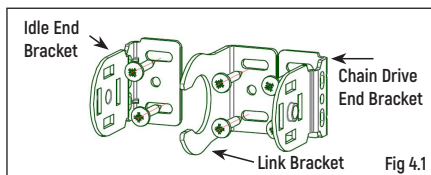

Fig 4.1
1. Mount the chain drive end bracket first, then mount the link bracket. Care should be taken to maintain the required gap of 6mm so that there is enough room to slot the master blind in and hook the chain drive into the brackets. Then install the Idle end bracket (**Fig 4.1**).